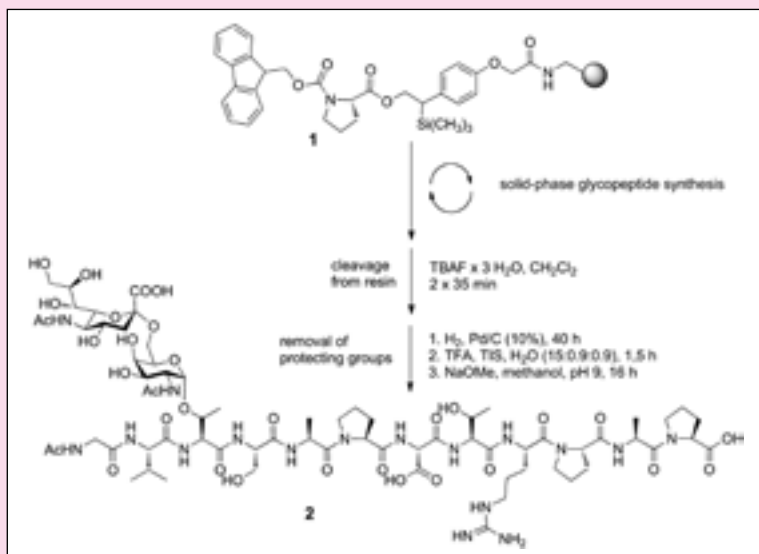

Fig. 3 Solid-phase synthesis of a glycopeptide 2 from the tandem repeat region of the tumour-associated MUC1 mucin.
ponents. Compared to normal Fmoc amino acids, the glycosidic bonds present in these compounds (and in the products obtained from them) have the effect of producing an elevated sensitivity to bases and acids. They can be successfully deployed in the automated solid-phase synthesis of MUC1 glycopeptide antigens, however, if conditions are maintained as established by recent work in this field. The example shown in Figure 3 summarises the use of a 2-(trimethylsilyl) ethyl ester anchor (1) and a sialyl-TN threonine component [6].